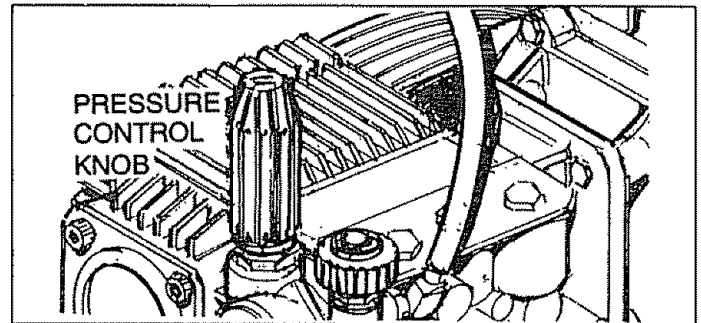

FIG. 13
- You can also adjust the pressure by turning the pressure control knob (Fig. 13) to the desired pressure setting. Turning this knob all the way clockwise produces the highest pressure. Do not unscrew the pressure control valve more than 3 turns. It will come off.